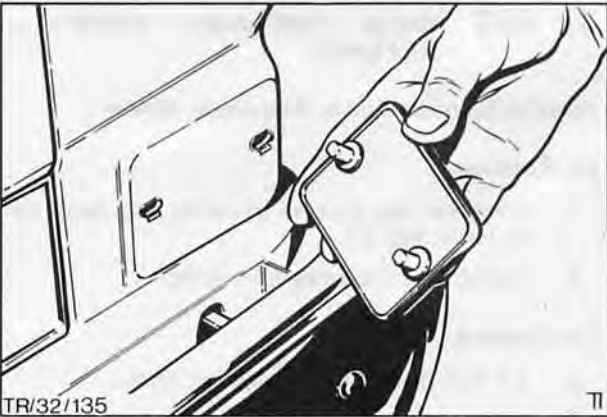

Fig. 34. Rear reflector
1. Using screwdriver, and packing to protect paintwork, gently prise off reflector, Fig. 34.